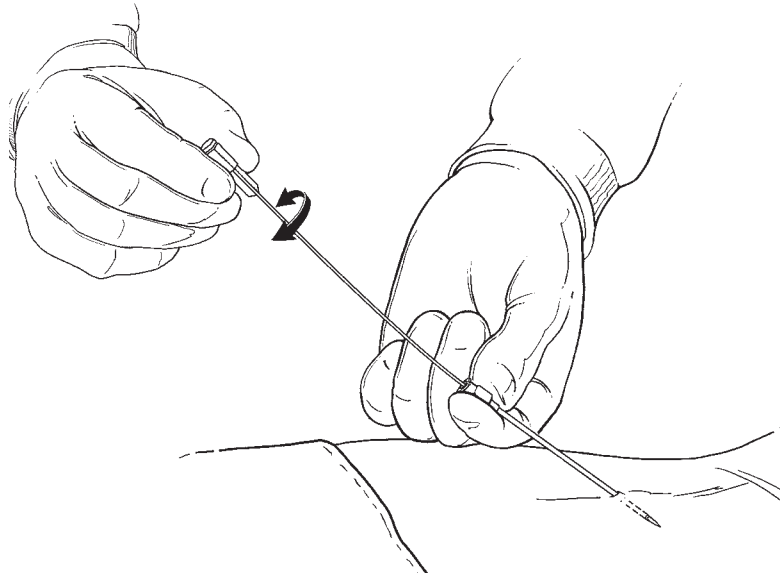
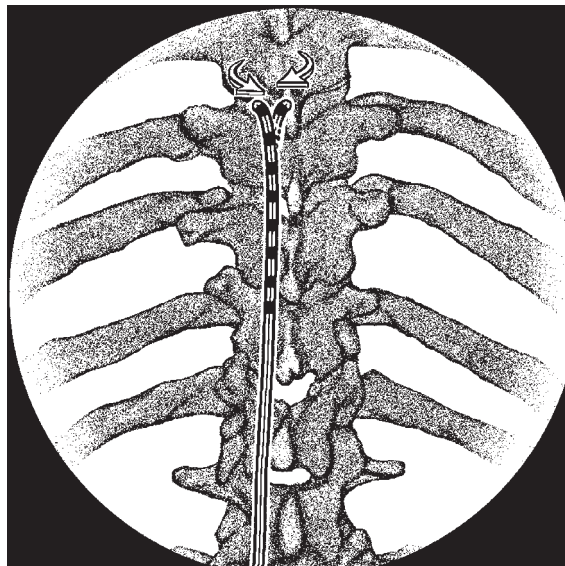

FIGURE 13
FIGURE 14
- a. To control the lead, grasp the stylet handle or the lead (1 to 2 cm from the needle hub) and roll the lead between your thumb and forefinger (FIGURE 13), rotating the tip of the lead in the epidural space (FIGURE 14).